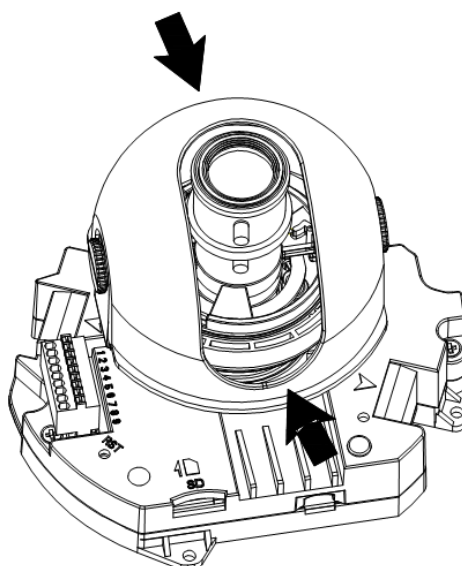

Figure 3-3 Installation 2
a) For the IR series product, you can skip current step and go the step b) directly. For the non-IR series product, push the port slightly to remove the decoration enclosure from the black plastic enclosure. See Figure 3-3.